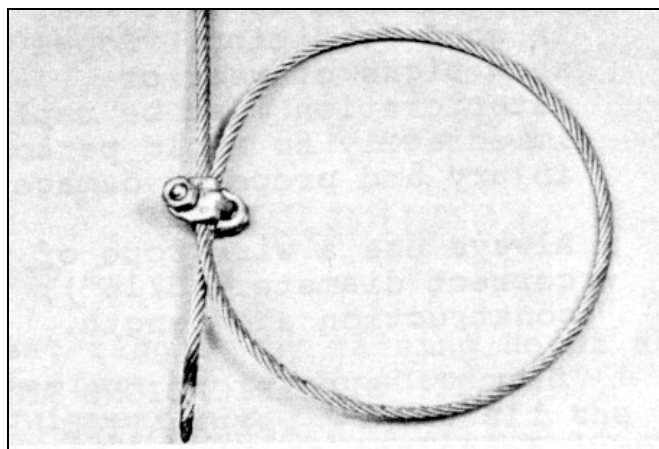

Figure 4.4
**WARNING:** If it is necessary to rig with less rope than specified above, it is mandatory that the bitter end of the rope be looped back on itself and secured with a "J" clamp. See Figure 4.4